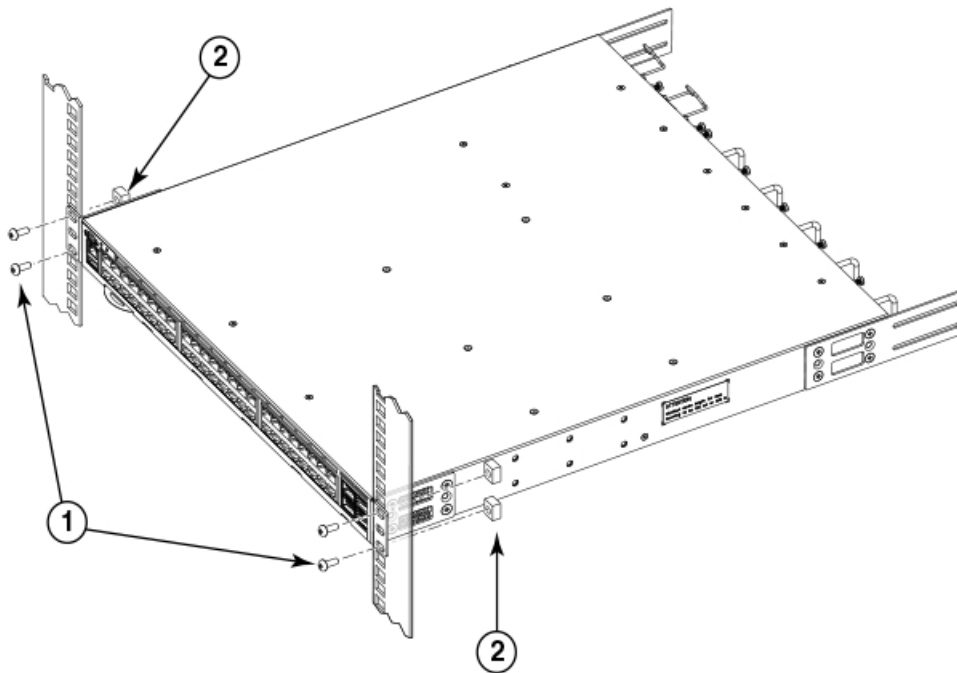

Figure 6. Positioning the device in the rack
1. Position the device in the rack, as shown in Figure 6 on page 19, providing temporary support under the device until the rail kit is secured to the rack.